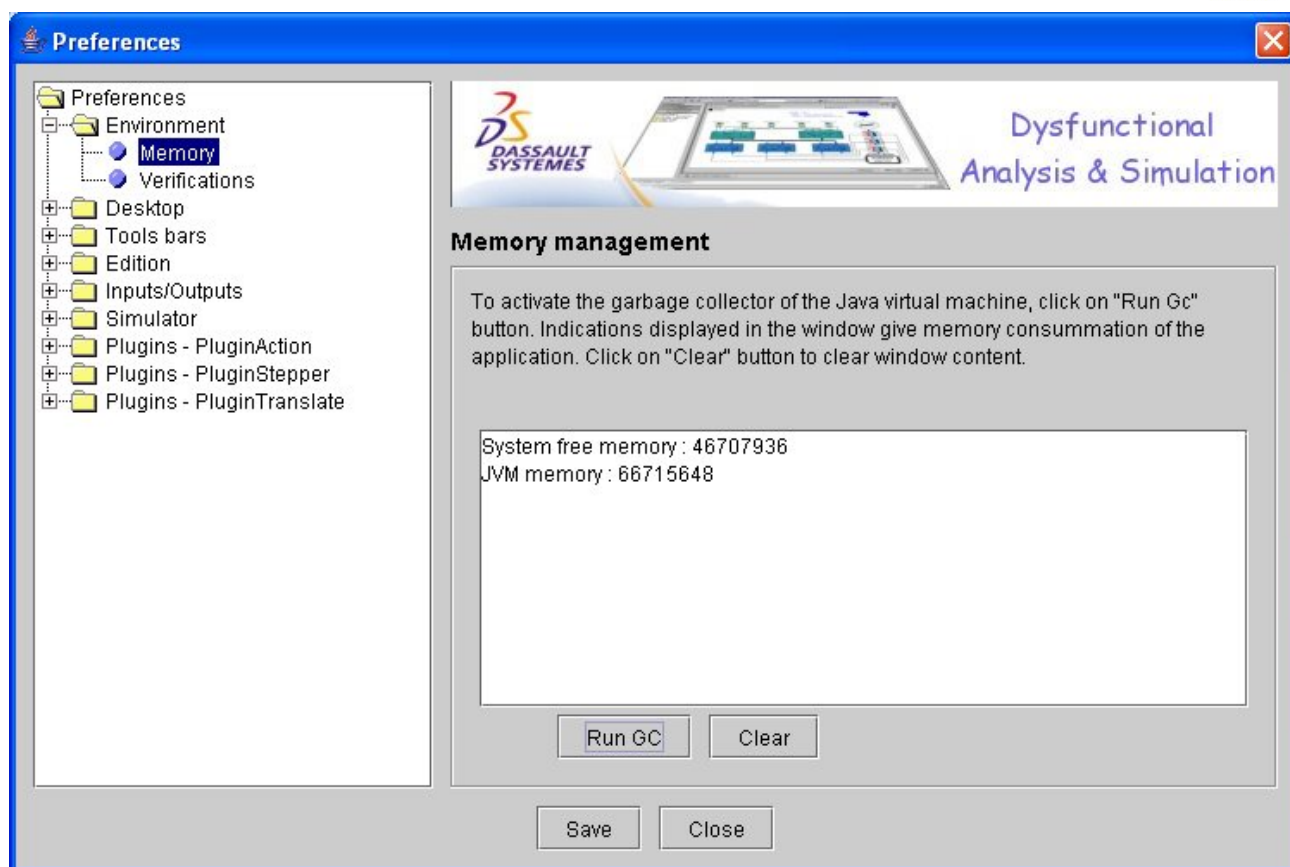

Figure 178 : Memory management
N.B: Sub-rubric **Memory** (Figure 178) is for maintenance only.